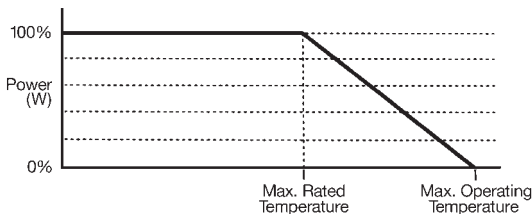

Figure 2: Example of Power Derating Curve
**2. Power Rating and Performance Testing.** Always use the trimmer potentiometer when testing rated performance. Carefully check the rated power, maximum operating voltage, operating temperature range, and other rated performance specifications. Increase or decrease the rated power according to the power derating curve. A typical power derating curve is shown in *Figure 2*. Use a trimmer potentiometer with sufficient allowable power rating to maintain stable performance over a long period of time. TOCOS recommends that the maximum working power should not be more than one-half the rated power of the trimmer potentiometer.